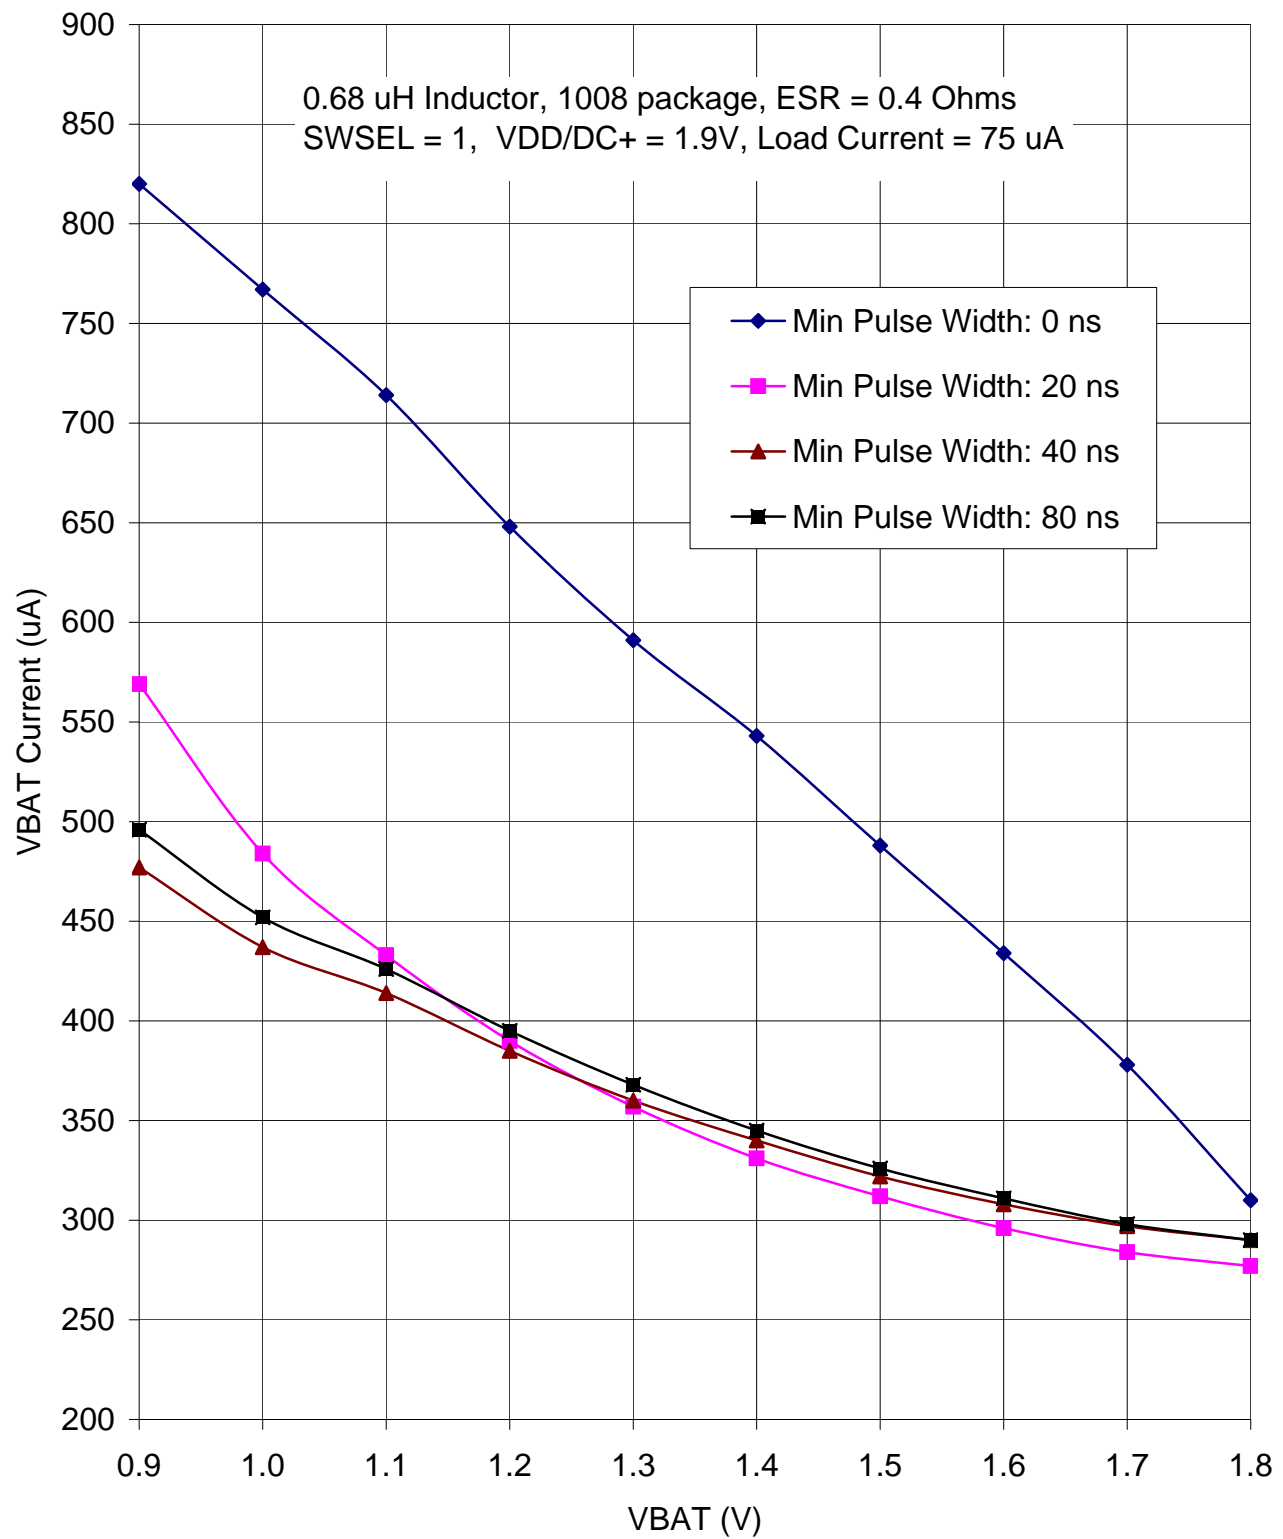

Figure 14. Typical Suspend Mode Supply Current
- **Minimum Pulse Width**—The minimum pulse width forces the dc-dc converter to use a minimum duty cycle. For low current applications (e.g., MCU in suspend mode), a single pulse provides enough charge to keep the output above the target voltage for several clock pulses. The dc-dc converter remains idle during these clock cycles. This causes an improvement in efficiency due to a reduction in switching losses. Figure 14 shows the effect of minimum pulse width on suspend mode current.